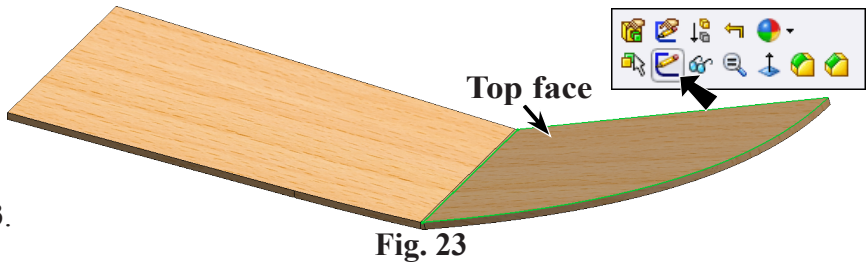

Fig. 23
Click **OK** , **Fig. 23**.
Step 1. Click the **top face of outboard panel** and click **Sketch**  on the Content menu, **Fig. 23**.